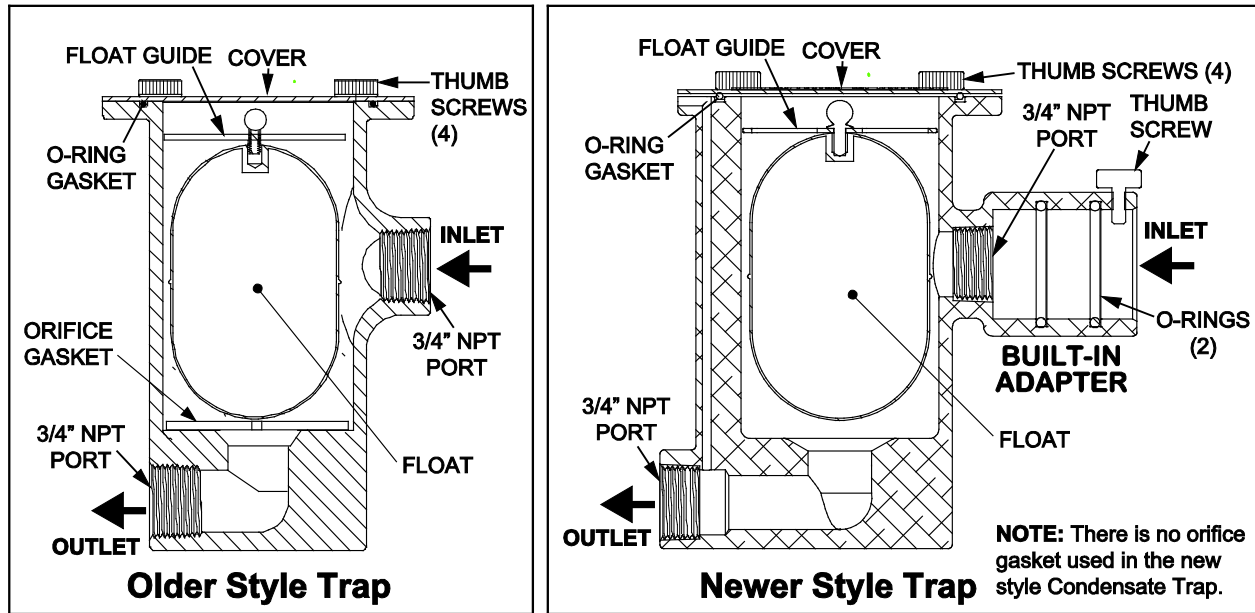

Figure 10: Condensate Trap P/N 24060 (Old and New Styles)
For Benchmark 3.0 boilers, the external Condensate Trap (P/N **24060**) is attached to the connecting manifold drain pipe using a special adapter (Figure 10).
There are two slightly different types of Condensate Traps that may be used in your configuration; an older style with a separate inlet adapter, and a newer style with a built-in adapter (see Figure 10). Maintenance is the same, except that the newer style does not need an orifice gasket (Step 5).
2. Refer to Figure 10 and loosen the four (4) thumbscrews securing the cover on the Condensate Trap. Remove the cover.
5. For **Old Style** Condensate Trap, remove, discard, and replace the currently installed 0.25" I.D. orifice gasket from the trap with the new one (P/N **81092**) provided in the kit (Figure 10). The **New Style Trap** does NOT use an orifice gasket, so this step is not necessary for that type.